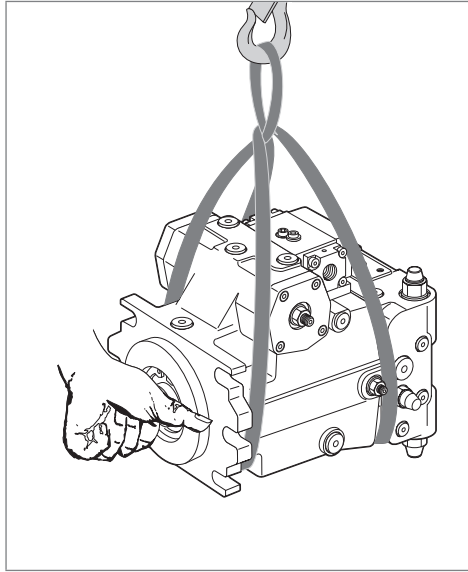

Fig. 8: Transport with lifting strap
- ▶ Place the lifting strap around the axial piston unit in such a way that it does not pass over assembled parts (e.g. valves, magnets, or piping) and that the axial piston unit is not suspended from assembled parts (see Fig. 8).